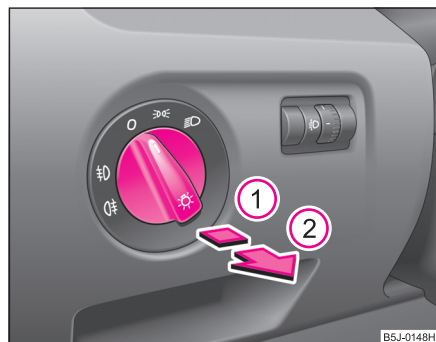

Fig. 36 Dash panel: Light switch
- First of all turn the light switch into position 𐀀𐀁 or 𐀀𐀂 ⇒ fig. 36.
- Pull the light switch out to the **first** detent ①.
- Pull the light switch out to the **second** detent ②. The fog lights* light up at the same time.